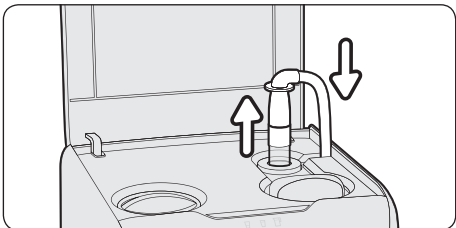

Figure 9
3. Connect the UV lamp to its power cable connector (Figure 9).